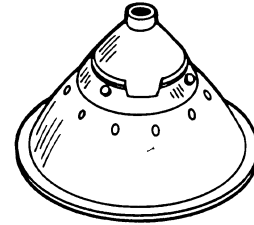

Figure 4
Dome and 30 degree angle reflectors are equipped with adapter ring for mounting to fixture. Loosen the three (3) attachment screws in the adapter ring and place reflector assembly on the fixture body flange. Securely tighten the three (3) attachment screws. (See Figure 4)